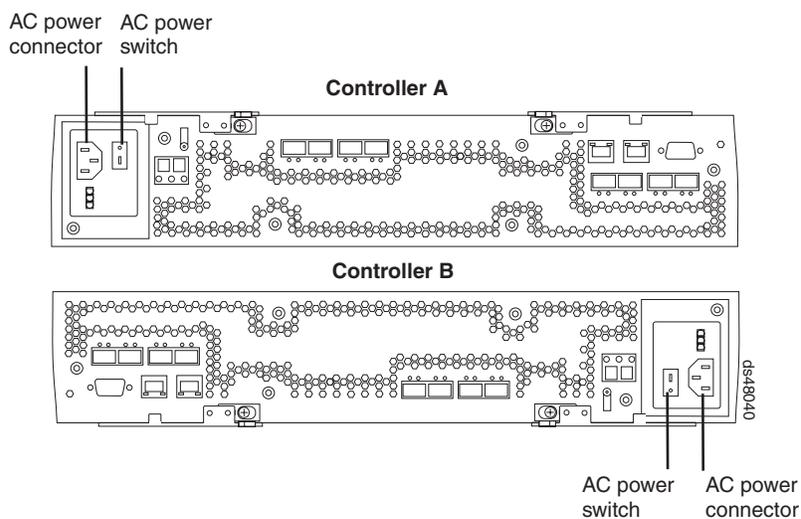

Figure 60. AC power switches on the controllers
5. Turn on the AC power switch on the back of each controller in the storage subsystem. Figure 60 shows the location of the AC power switches on the controllers.